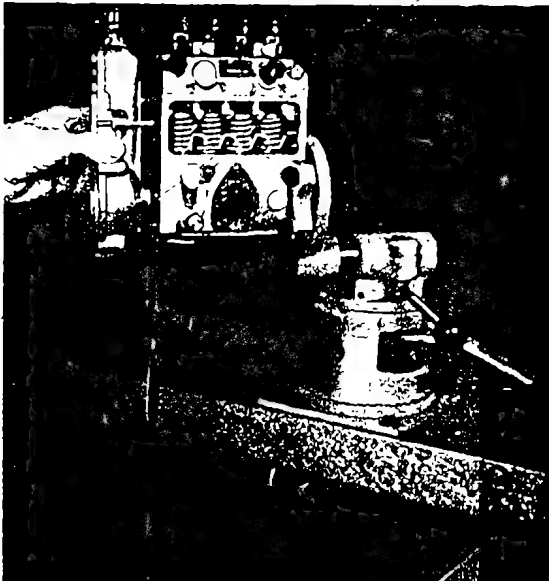

Fig. 11 Removing the governor housing
Unscrew fixing screw (11) in threaded plug (10) and the remaining screws (9). Free housing by light taps with rubber hammer and lift off, collecting lube oil in work bench tray or suitable container (Fig. 11).